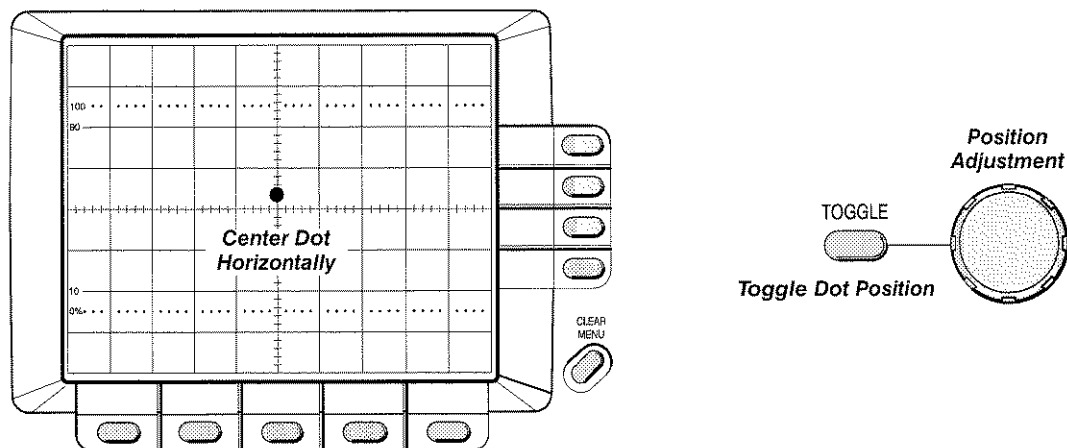

Figure 7-5: Horizontal Adjustments (Two)
10. Use a combination of the **TOGGLE** button and the General Purpose Knob to center the single dot at the center of the screen (see Figure 7-5).